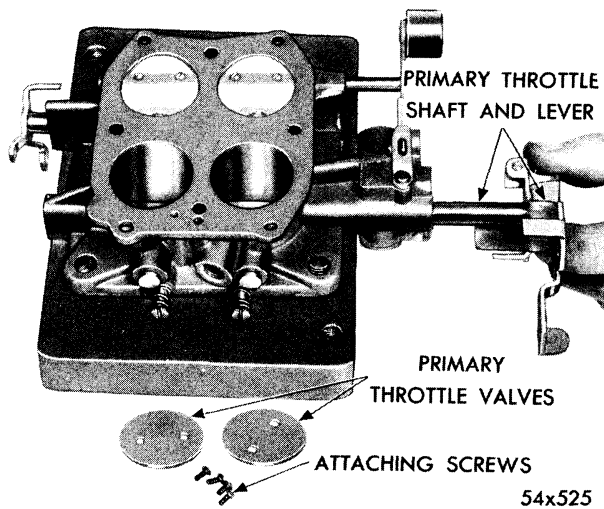

Fig. 33—Removing or Installing Primary Throttle Shaft
- (7) Remove the four screws that hold the primary throttle valves to the throttle shaft. Lift out valves, then withdraw primary throttle shaft using a twisting motion, as shown in Figure 33.
- (1) Check the throttle shaft for excessive wear in the throttle body. If wear is extreme it is recommended that the throttle body be replaced rather than installing a new throttle shaft in the old body.
- (2) Install the new primary throttle shaft and lever (if needed) in the throttle body, as shown in Figure 33.